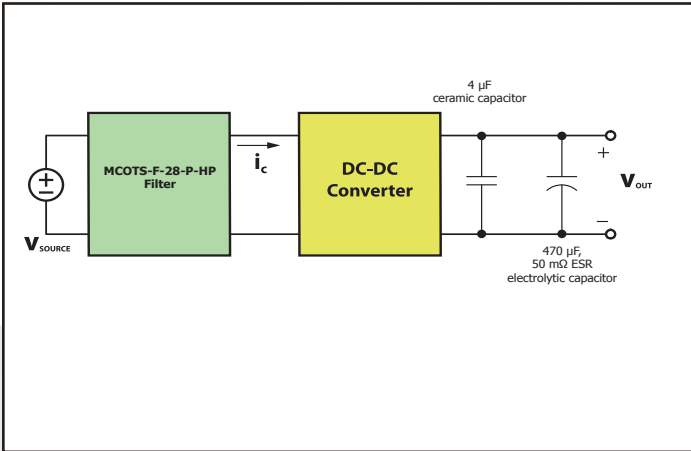

Figure 13: Test Set-Up Diagram, showing measurement points for Input Terminal Current Ripple (Figure 9) and Output Voltage Ripple (Figure 10).
**Figure 9: Input Terminal Current Ripple,  $i_{in}$ , at full rated output current and nominal input voltage with a 470  $\mu$ F electrolytic capacitor (1 A/div); Timebase: 4  $\mu$ s/div; Bandwidth: 20 MHz. See Figure 13.**
**Figure 10: Output Voltage Ripple,  $V_{out}$ , at nominal input voltage and rated load current (50 mV/div). Load capacitance: 4  $\mu$ F ceramic and 470  $\mu$ F electrolytic capacitors. Timebase: 4  $\mu$ s/div; Bandwidth: 20 MHz. See Figure 13.**